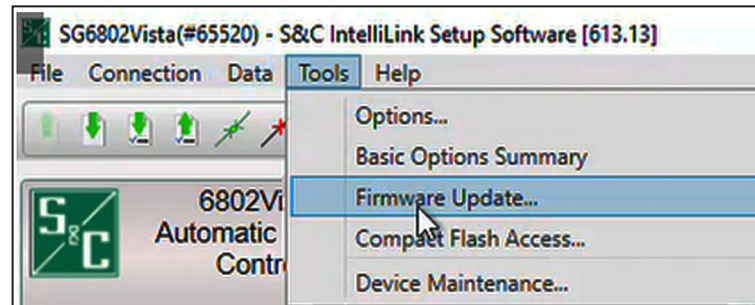

Figure 17. The Tools>Firmware Update menu option.
STEP 5. In the **Tools** menu on the menu bar, click on the **Firmware Update** menu option. See Figure 17.